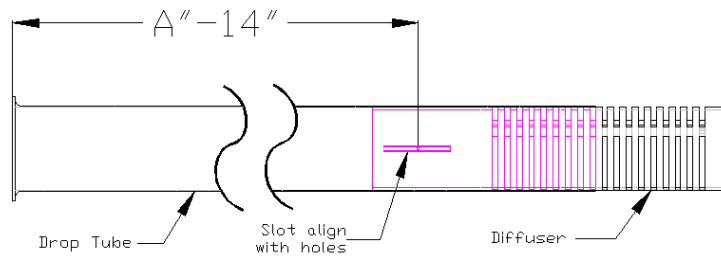

Figure 3
4. Insert the Diffuser at the bottom of the drop tube. It should be noted that the top of the Diffuser allows the installer to adjust the diameter to allow a tight fit by simply pull on the edge of the unit to expand or squeezing on the edge to reduce the diameter. Be sure to align the holes previously drilled with the vertical slot on the Diffuser as show in Figure 3.